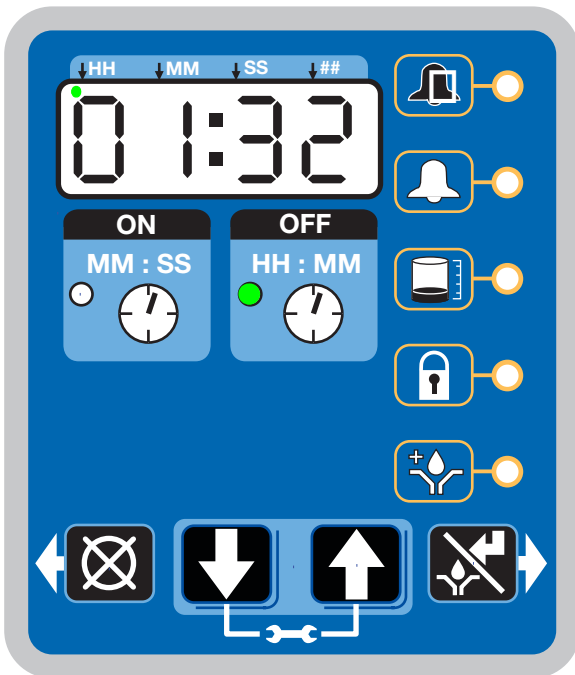

FIG. 32
After setup is complete, the G5 automatically begins to run the OFF Time sequence (FIG. 32).
- The example shown in FIG. 32 shows an OFF Time of 1 hour and 32 minutes before the lubrication cycle begins.
- When the ON Time count reaches zero, the pump shuts off again and the system again runs OFF Time cycle and the OFF Time LED is now again illuminated (FIG. 32).